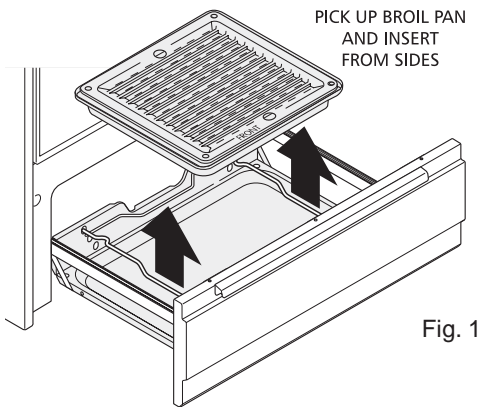

Fig. 1
2. Remove broiler pan and insert (See Figure 1).